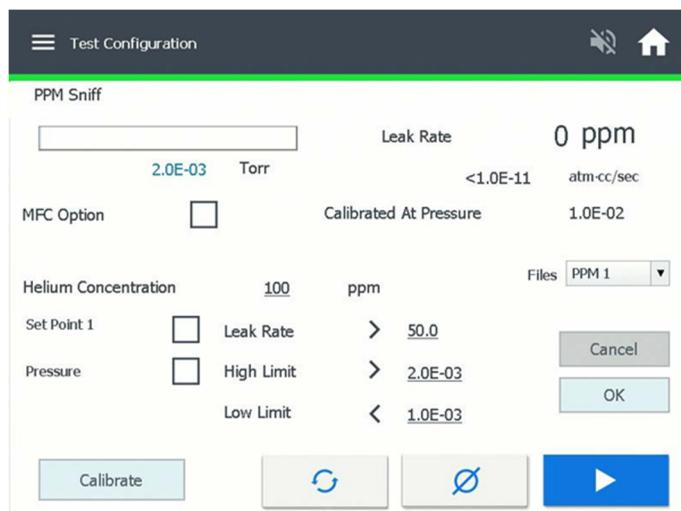

Figure 46 PPM Sniff Method
- 5 Press the **Calibrate** button (see Figure 46) and follow the step-by-step instructions. The leak detector is now ready to measure the concentration of Helium in PPM.